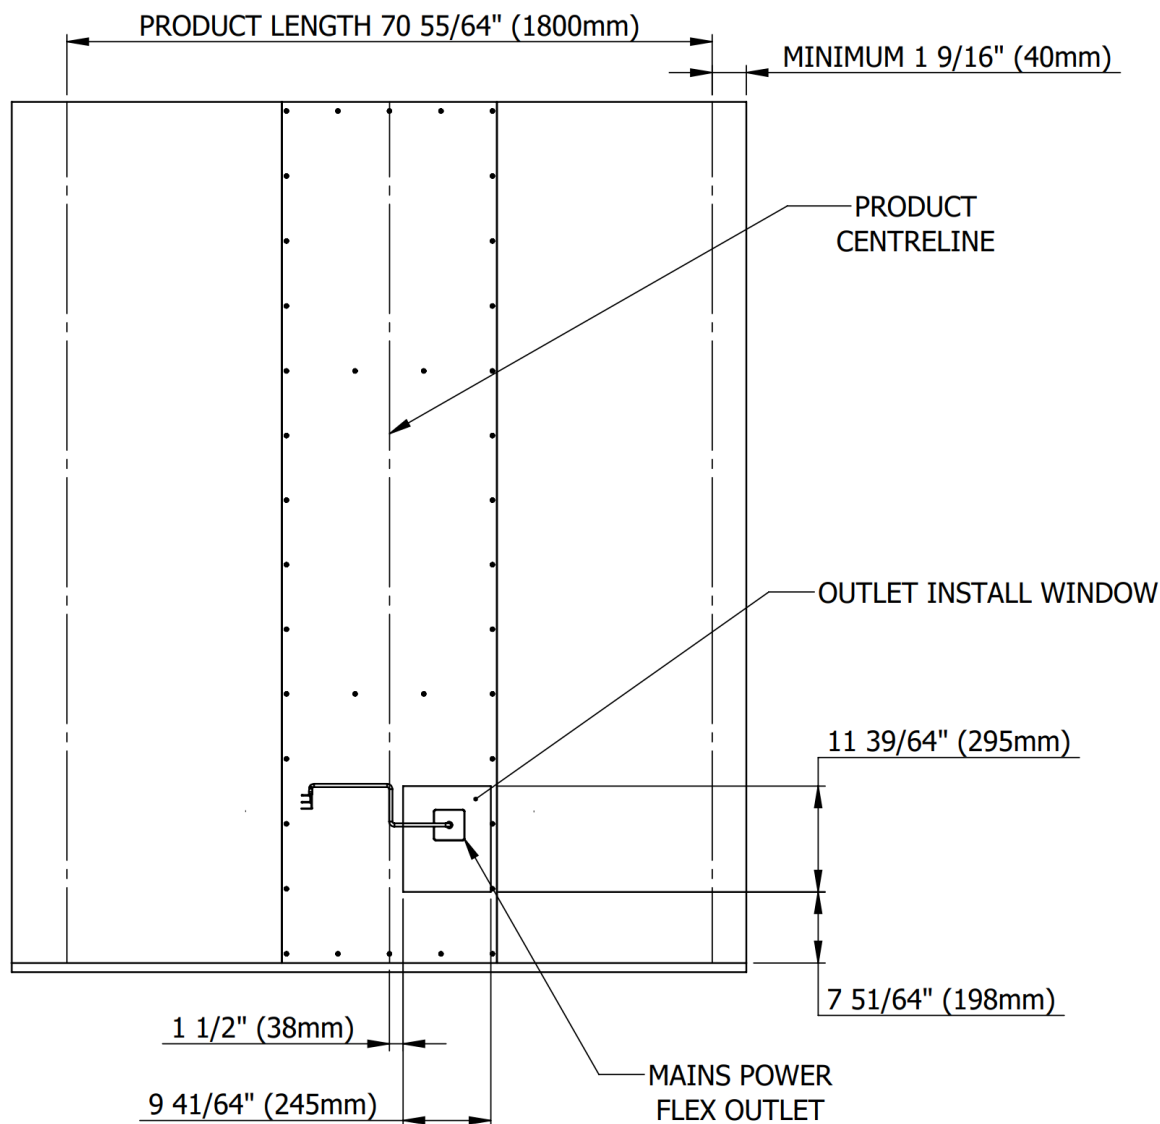

Fig 11.2
- The mains power cord should be fit within the area specified in Fig 11.2. It is recommended to fit a suitable waterproof flex outlet cover/faceplate. This must be fitted sub-flush to the wall and within the clearance area shown in figure 11.2. The maximum dimensions for a surface mounted outlet are 3 5/8" (92mm) tall, 4 7/32" (107mm) wide and 2" (50mm) deep.
- The switched, waterproof flex outlet cover/faceplate has been fitted in the position shown in Fig 11.2, is no larger than the stated dimensions and flush or sub-flush with the wall.
- Position the SBU against the wall in the approximate mounting position which will allow the mains power cable to reach the junction box and puts the flex outlet within the defined area (Figure 11.2). Ensure it feeds behind the actuator.